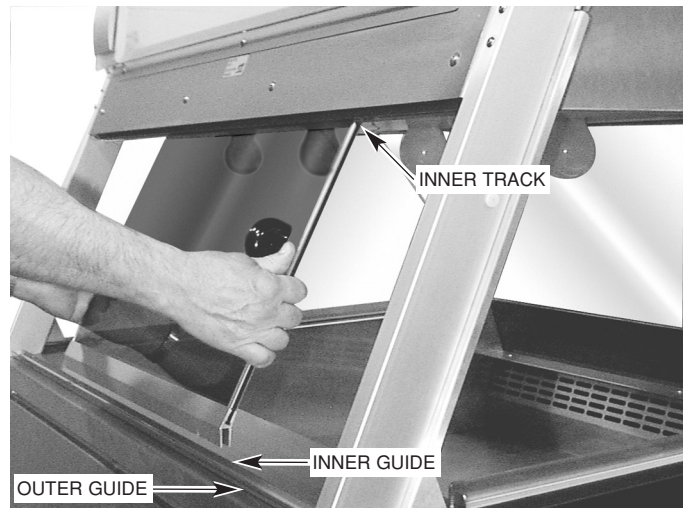

Fig. 3
1. Position the top of either door in the top inner track (Fig. 3).